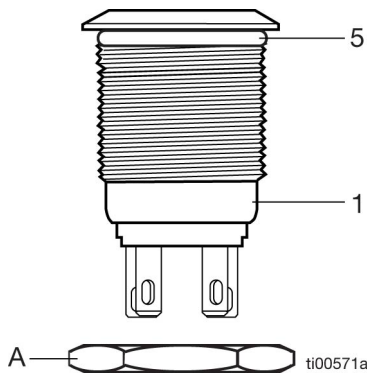

FIG. 1
3. Remove lock nut (a) from button (1).
Install o-ring (5) (FIG. 1).